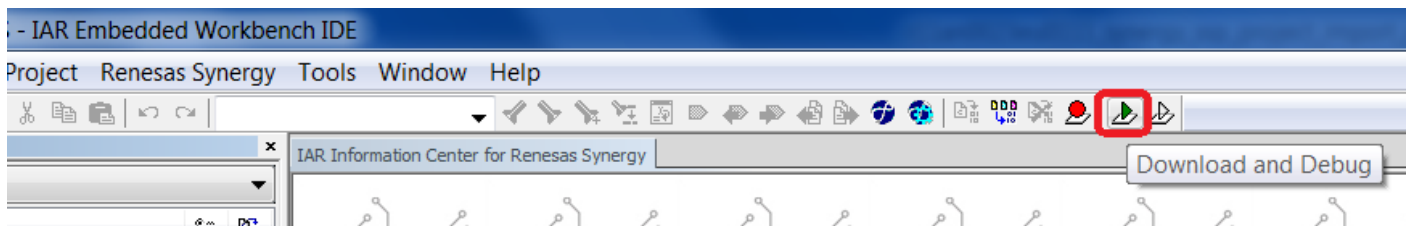

Figure 1.14 Debugger Setup 2
3. Press the **CTRL+D** or **Download and Debug** button as shown in Figure 1.14, to start debugging.